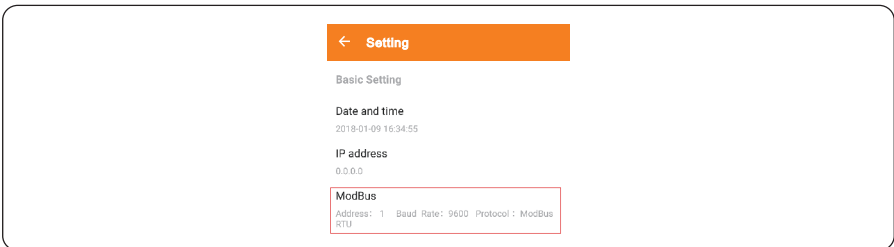

Figure 5.18 Check the Modbus address
Step 3 Check the Modbus address in Figure 5.18, the default address is 1, long click to revise the address and save it, the inverter at same RS485 bus must be set a unique address.